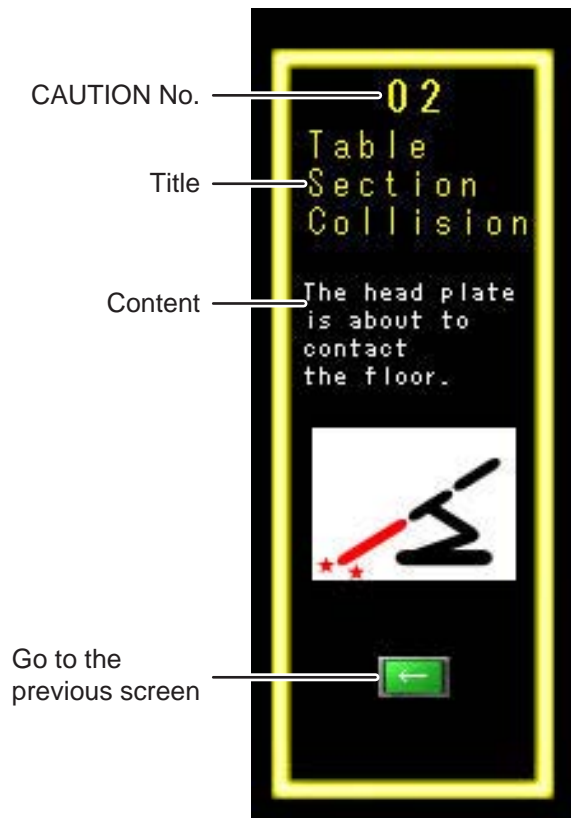
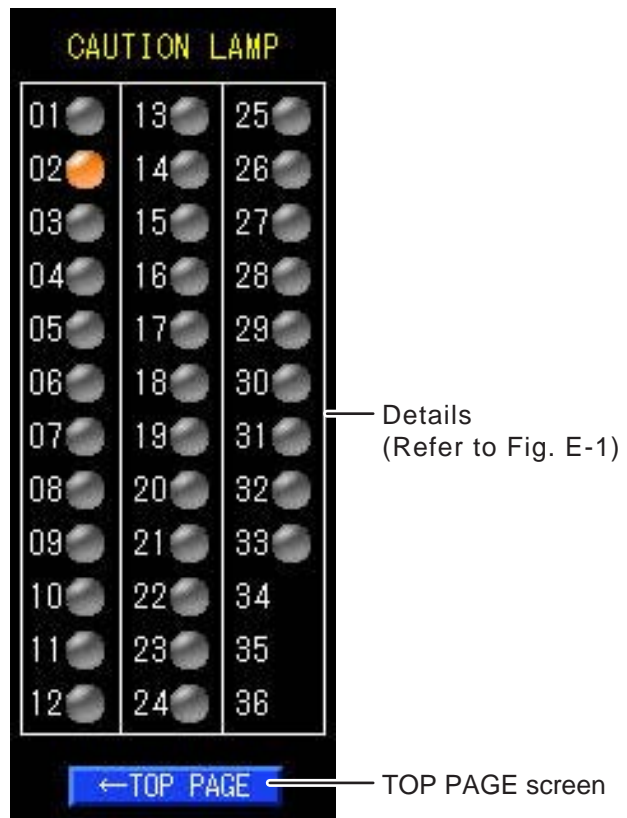

Fig. E-1
Fig. E-2
- To prevent damages, the operating table may stop during operation and a caution/warning screen such as in Fig. E-1 appears on the touch panel. For specific recovery procedures after the operating table stopped, refer to Page 75.
- Fig. E-2 appears, if you click CAUTION in Fig. A while any caution or warning has occurred. When one caution/ warning occurred, the screen of Fig.E-1 appears.